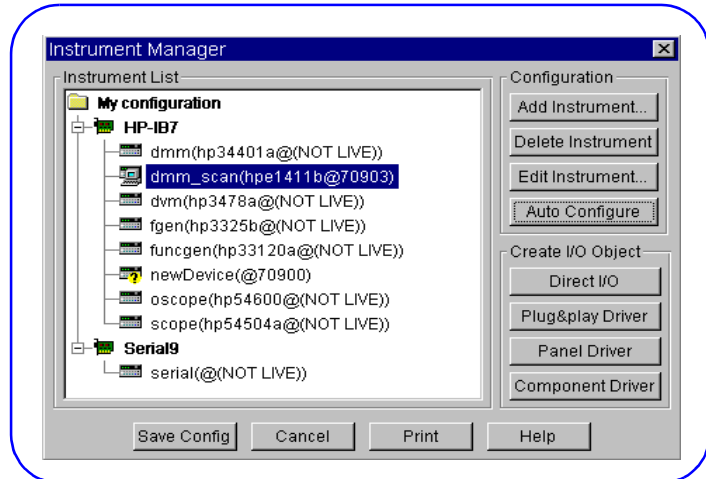

Figure 34. Typical HP VEE Instrument Manager Display
- 5 Click OK to send **IDN?* to the HP E1411B. If the query is successful, instrument communication is verified and the instrument model number (hpe1411b) appears (see Figure 34).